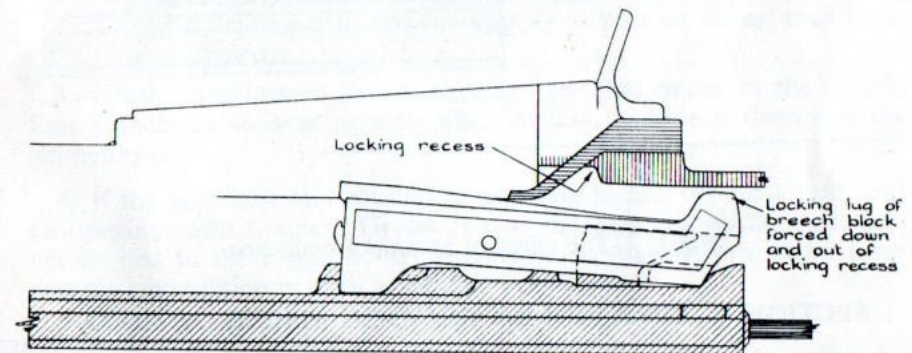

Fig 32.—The mechanism unlocked
7. As soon as the piston post starts to move back, the firing pin spring pulls the pin away from the base of the cartridge; the piston goes on back, the projection on the back of it catches the hollow end of the breech block, presses the back of it down, and brings the locking lug down out of the locking recess. All that takes long enough for gas pressure to drop in the chamber before the breech block can start to move back (see Fig 32).